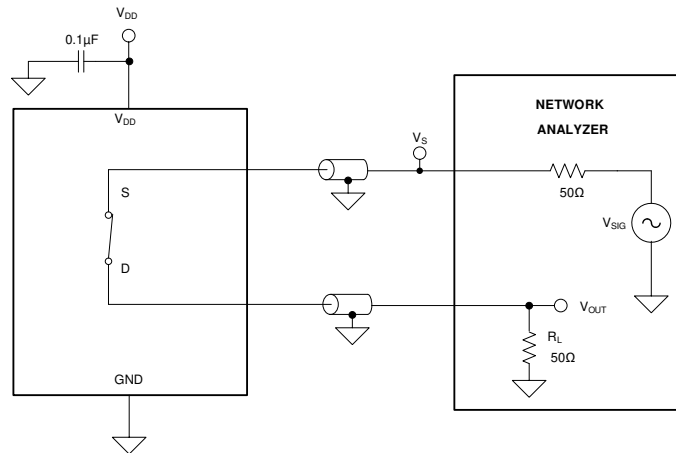

Figure 22. Bandwidth measurement setup
Bandwidth is defined as the range of frequencies that are attenuated by less than 3 dB when the input is applied to the source pin (S) of an on-channel, and the output is measured at the drain pin (D) of the device. The characteristic impedance, Z_0 , for the measurement is 50 Ω . Figure 22 shows the setup used to measure bandwidth.